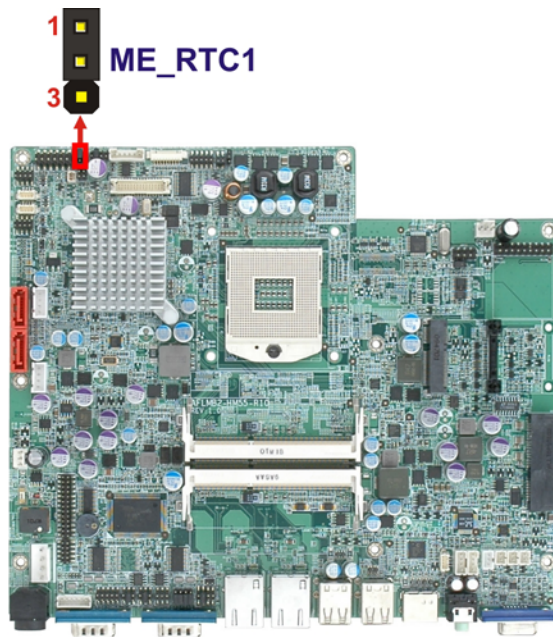

Figure 3-14: ME RTC Jumper Location
- Jumper Location:** See **Figure 3-14**
The ME RTC jumper location is shown in **Figure 3-14**.